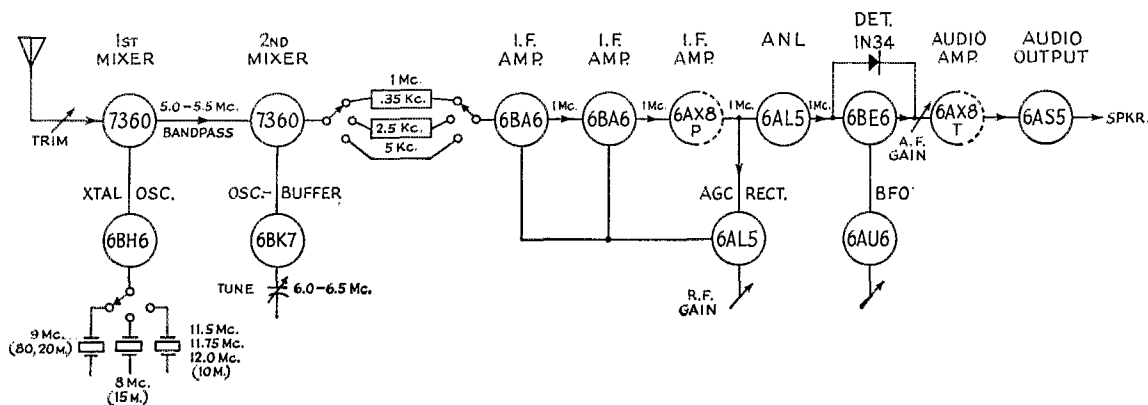

Fig. 1—Simplified block diagram of the SS-1R receiver.
A general idea of the frequency sequence through the receiver can be obtained from Fig. 1. The first mixer is a 7360 beam-deflection tube, with the local oscillator signal applied to the deflection plates and the incoming signal to the No. 1 grid. The output plates are connected push-pull. Used in this application, the tube has a low noise figure and the ability to handle strong signals without cross-modulation.¹ The output coupling of the first mixer is a band-pass filter, 5.0 to 5.5 Mc. In the 6BH6 oscillator stage, the 9-Mc. crystal is used for 80 or 20, the second harmonic of the 8-Mc. crystal is used for 15 meters, and the second harmonics of 11.5 Mc. or higher are used for 10 meters. When harmonics are used, they are selected by tuned circuits. On 40 meters, the first mixer is bypassed and the antenna circuits feed the No. 1 grid of the second mixer.
b.f.o. is preset for sideband reception, but on switching to c.w. the b.f.o. panel control becomes operative. Not suggested in Fig. 1 is the circuitry that switches capacitors in and out of the preset b.f.o. so that a panel switch marked "USB" and "LSB" does indeed give upper and lower sideband reception, regardless of the band. Also not shown is similar circuitry across the 6BK7 oscillator circuit that shifts the oscillator just enough to make the tuning dial always read the frequency of the (suppressed) carrier. It is a highly refined extension of the principle first described by Bob Ehrlich.⁴